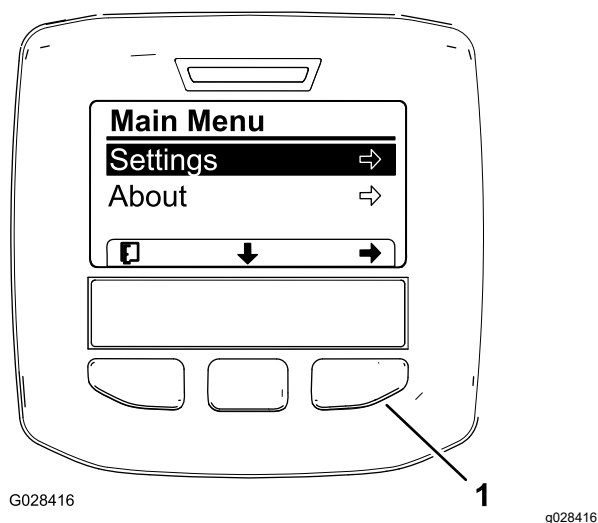
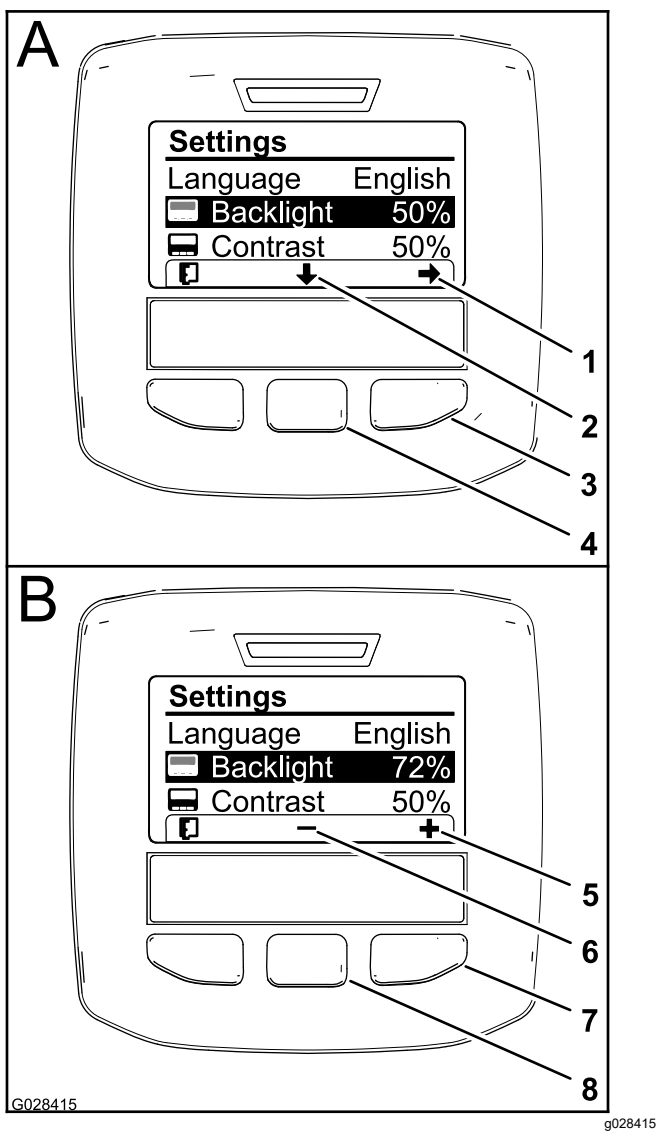

Figure 61
Figure 63
3. Press the center selection button to access the Main Menu (Figure 61).
5. Press the left selection button to save your selection(s), exit the Settings menu, and return to the Main Menu (Figure 61).
2. To adjust the backlight level of the display, press the center selection button (the button below the down arrow icon in the display) to move the selected option down to the Backlight setting (Figure 63).
3. Press the right selection button to display the value adjustment context (Figure 63).
4. Use the center selection button and right selection button to change the brightness level of the display (Figure 63).
selection, exit the Backlight menu, and return to the Settings menu (Figure 63).
6. To adjust the contrast level of the display, press the center selection button (the button below the down arrow icon in the display) to move the selected option down to the Contrast setting (Figure 63).
7. Press the right selection button to display the value adjustment context (Figure 63).
8. Press the left selection button (the button below the list icon in the display) to save your selection, exit the Contrast menu, and return to the Settings menu (Figure 63).
9. Press the left selection button to exit the Settings menu and return to the Main Menu (Figure 61 and Figure 63).
10. Press the left selection button to return to the Home screen (Figure 63).